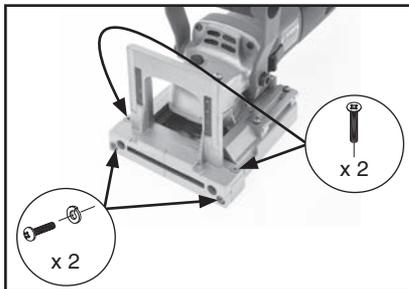

Figure 16. Fasteners for removing faceplate.
3. Loosen and remove (2) M4-.7 x 12 Phillips head screws and (2) 4mm lock washers from front of faceplate (see **Figure 16**).
4. Loosen and remove (2) M4-.7 x 12 flat head screws from faceplate (see **Figure 16**), and remove faceplate.